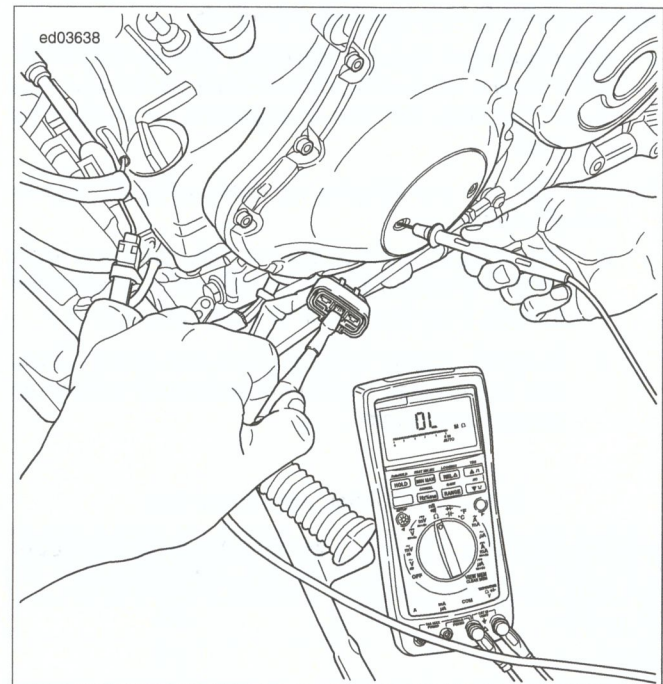

Figure 2-11. Test for Grounded Stator (Typical)
2. See Figure 2-11. Connect an ohmmeter.